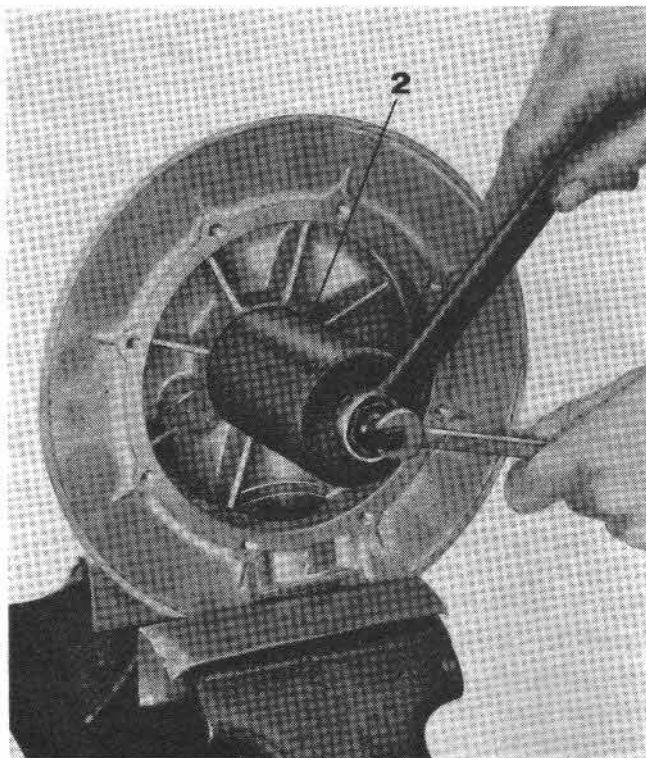

Fig. 86
- remove roller bearing race by means of pulser No. 12906900 (see 2 on Fig. 86).